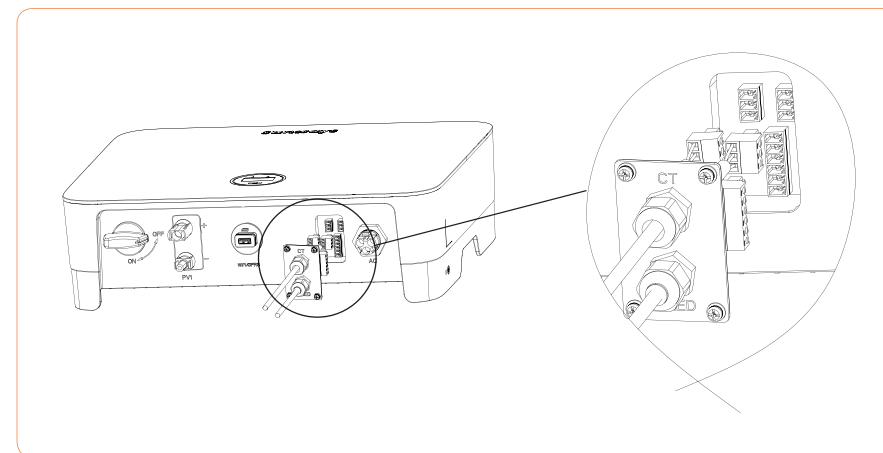

Figure 4-24
- ③ Insert the cable to the port in the 3/6pin connector and fasten with a screwdriver.
- ④ Insert the 3/6pin connector into the 3/6pin connector inside the inverter, and screw the CT/ DRED plate back with a cross screwdriver, as shown in Figure 4-24: